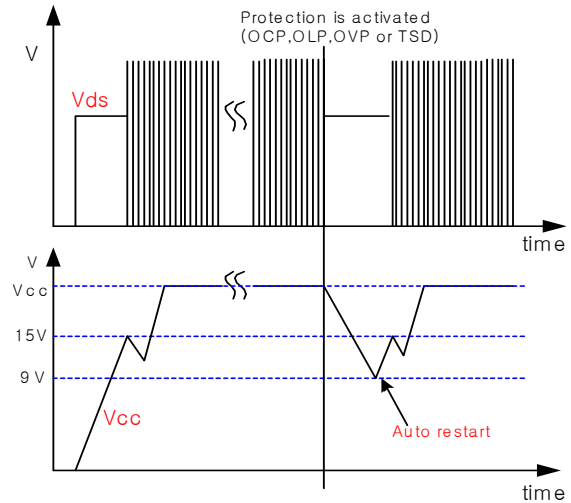

Figure 3. Auto restart operation after protection
**3. Protection function :** FS8S0765RCB has 4 self protective functions such as abnormal over current protection (AOCP), over load protection (OLP), over voltage protection (OVP) and thermal shutdown (TSD). Because these protection circuits are fully integrated into the IC without external components, the reliability can be improved without cost increase. In the event of these fault conditions, the FPS enters into auto-restart operation. Once the fault condition occurs, switching operation is terminated and MOSFET remains off, which forces  $V_{cc}$  to be reduced. When  $V_{cc}$  reaches 9V, the protection is reset and the supply current reduces to  $80\mu A$ . Then,  $V_{cc}$  begins to increase with the current provided through the start-up resistor. When  $V_{cc}$  reaches 15V, the FPS resumes its normal operation if the fault condition is removed. In this manner, the auto-restart alternately enables and disables the switching of the power MOSFET until the fault condition is eliminated as illustrated in figure 3.